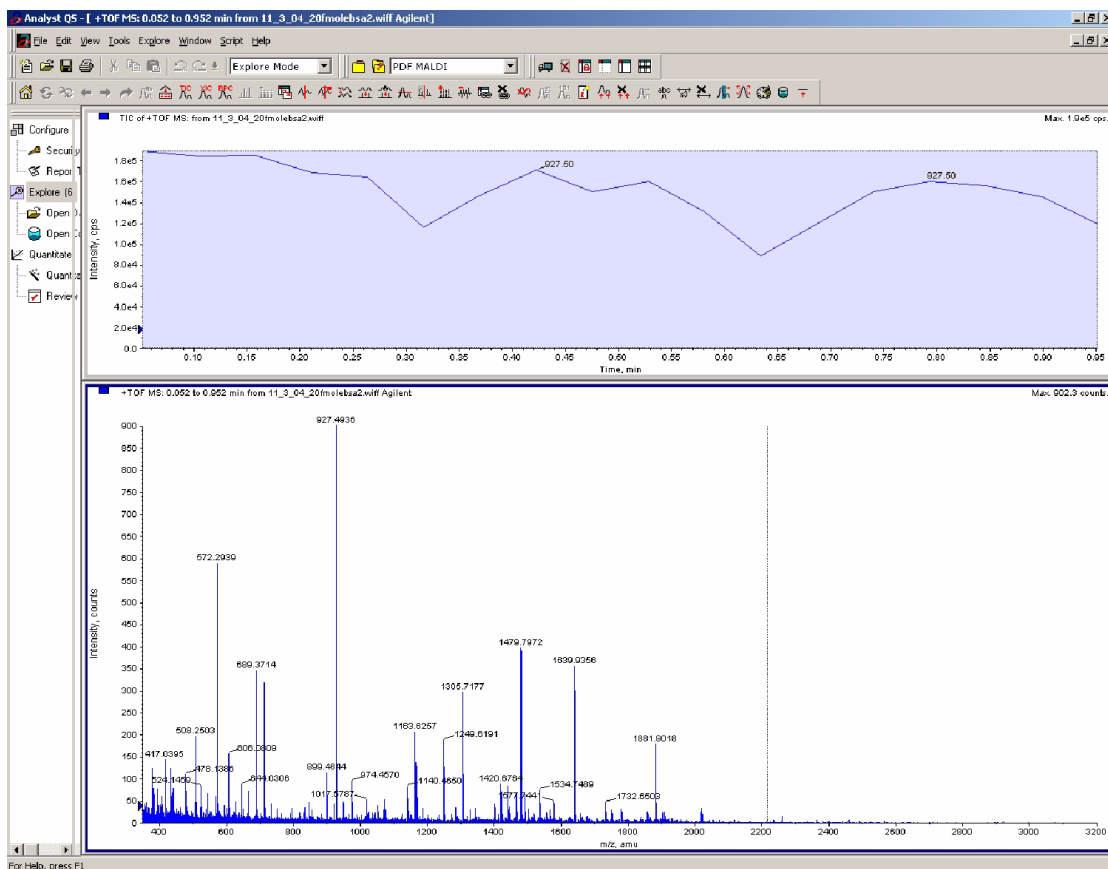

Figure 157 20 fmole BSA spectrum (unzoomed)
- e Compare the acquired spectra to Figure 157 and 158.